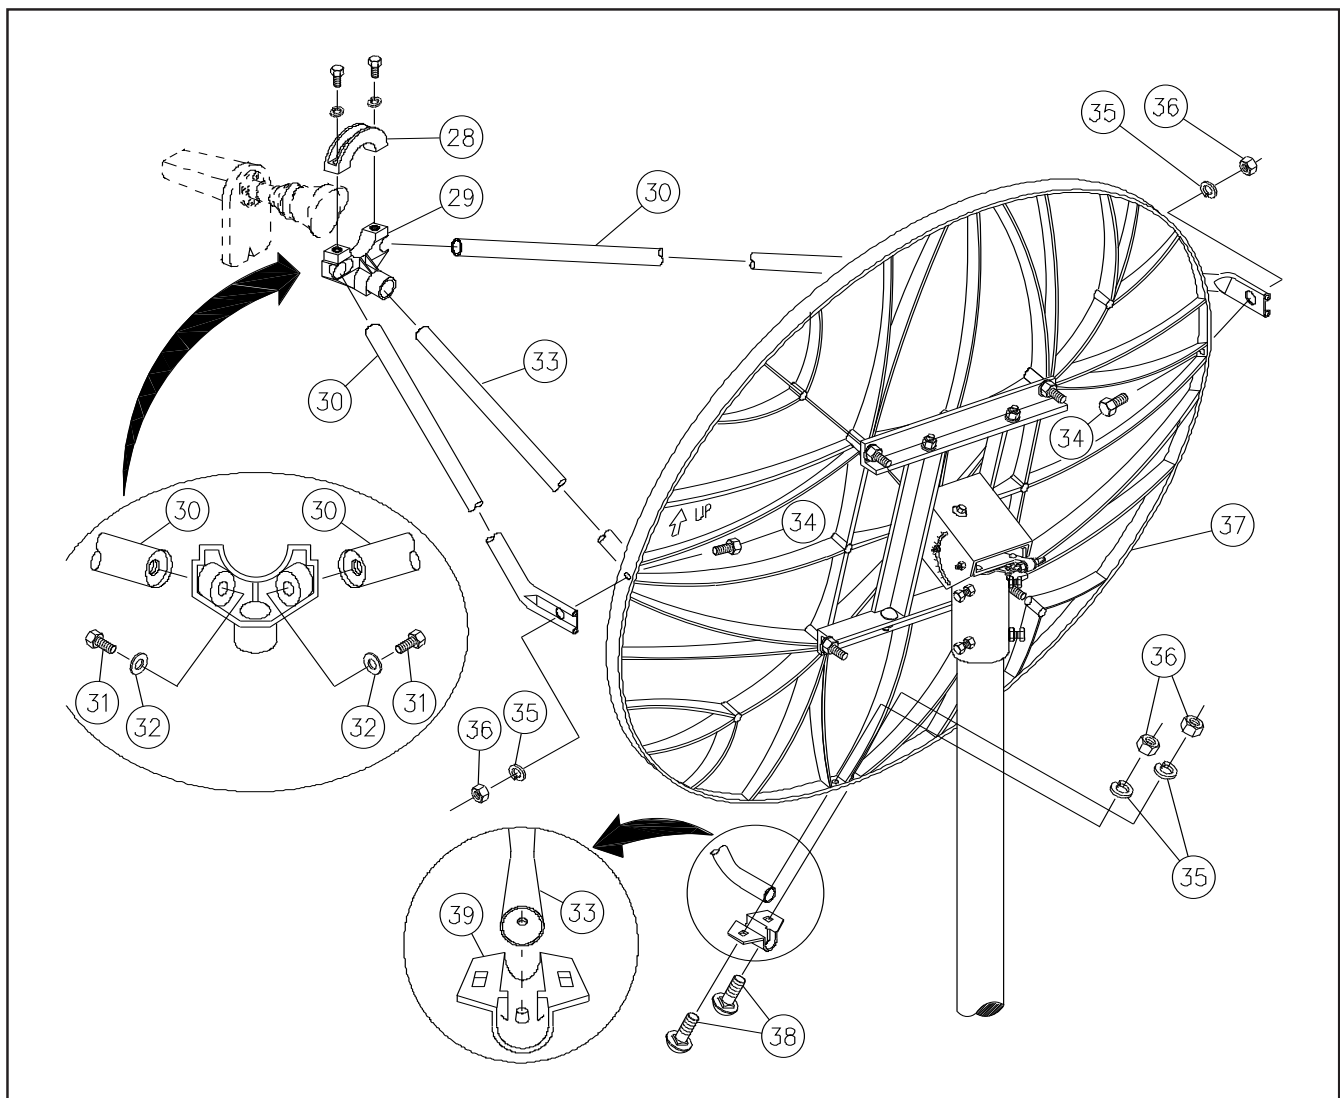

FIG. 1.2 - INSTALLING FEED AND FEED SUPPORT LEGS TO ANTENNA
IMPORTANT: For correct orientation of Reflector, the "UP" arrow must be as shown in Figure 1.1 and Figure 1.2.
Install side feed legs (30) to sides of antenna (37) as shown in Figure 1.2. Secure with M6 x 20mm hex bolt, lock washer and hex nut (34, 35 and 36). Do not tighten.